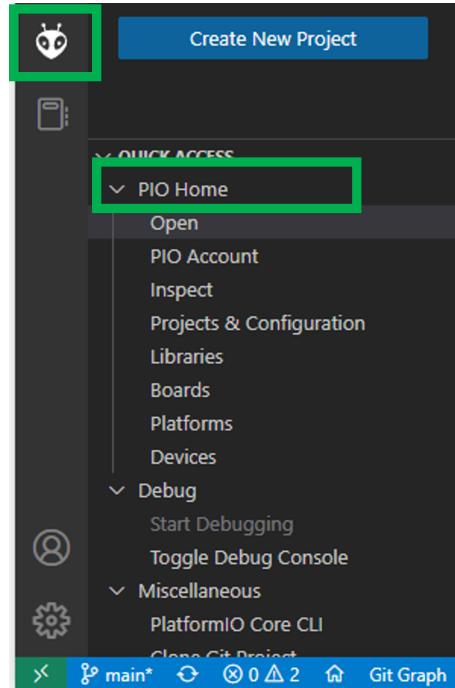

Figure 5: VSCode GUI highlighting "ant icon" and "PIO Home"
- Expand the PlatformIO sidebar (ant icon) and click "PIO Home" as shown in Figure 5.